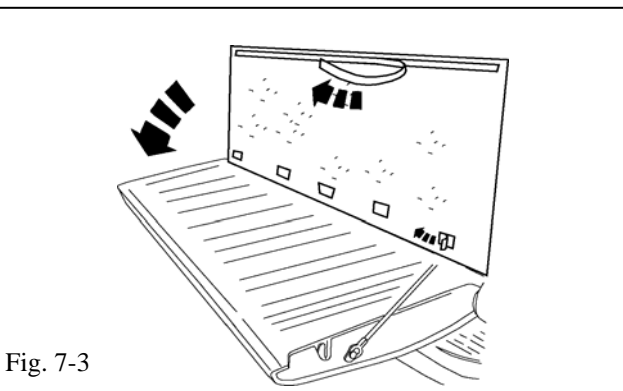

Fig. 7-3
- (e) Remove the film and align the edge of the Bed Rug tailgate section to the top edge of the tailgate. (Fig 7-3)